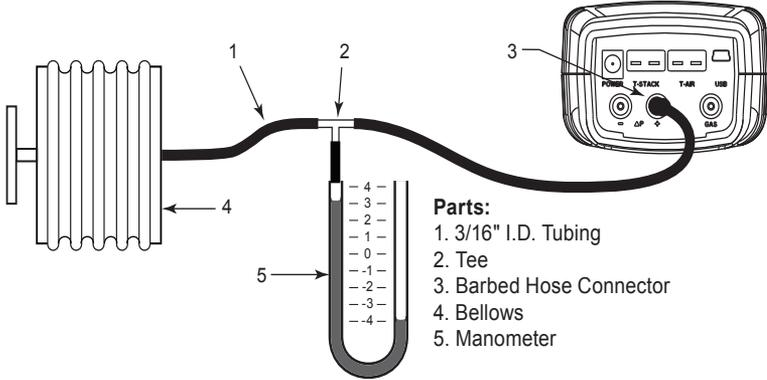

Figure 5-1 Pressure Sensor Calibration Equipment
1. Assemble the pressure sensor calibration equipment as shown in Figure 5.1, but **DO NOT** connect the analyzer to the calibration equipment at this time.